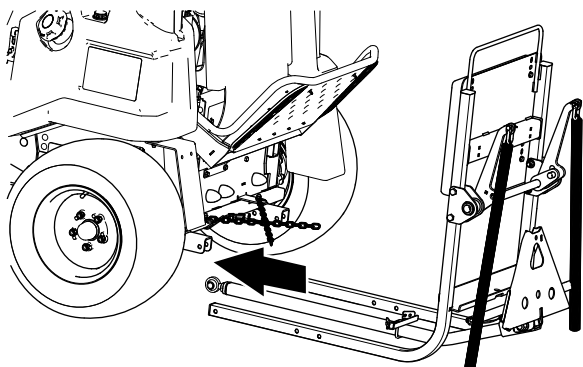

Figure 11
2. Install the tow-stop bracket to the drawbar with a U-bolt and 2 flange locknuts (5/16 inch) as shown in Figure 11.
3. Align the rear attachment lift frame under the machine (Figure 11).